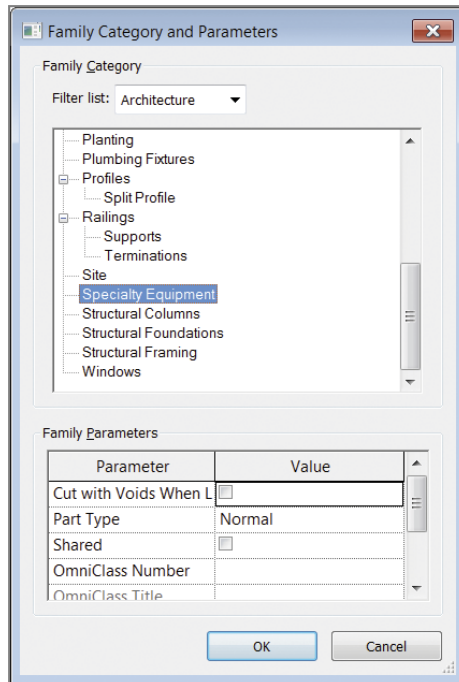

FIGURE 6.13 Changing the family category
3. When the Family Category and Parameters dialog box appears, the current category is selected. Select Specialty Equipment from the list (Figure 6.13), and click OK.